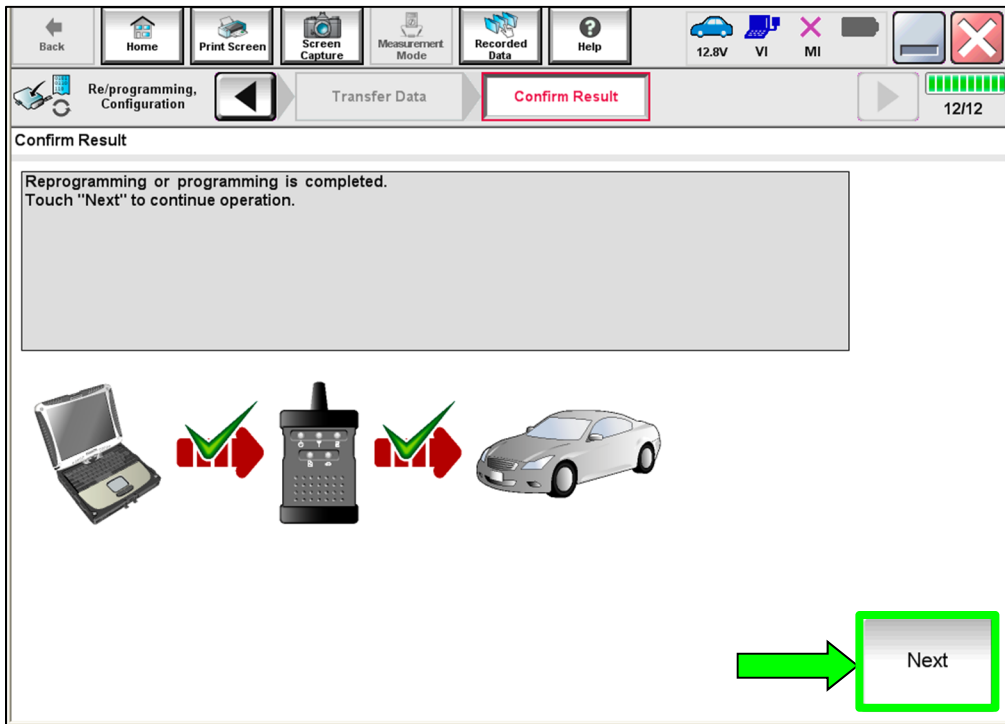

Figure 14
**NOTE:** When the screen in Figure 14 displays, reprogramming is complete. If the screen in Figure 14 does not display (indicating that reprogramming did not complete), refer to the information on the next page.